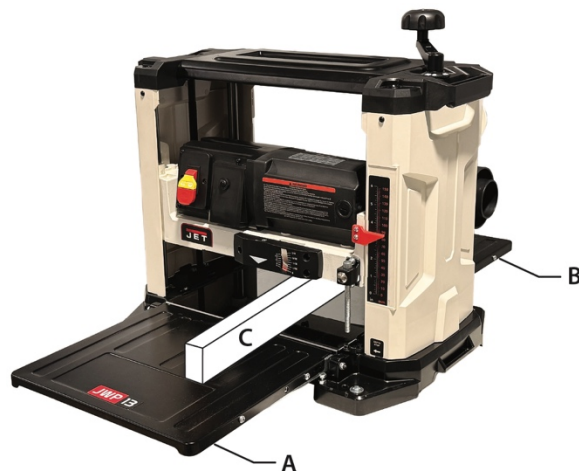

Figure 8-2
1. Fold down both infeed and outfeed tables (A & B, Figure 8-2).
2. Place a straight board (C, Figure 8-2), try square, straight edge, or similar item across the infeed and outfeed tables.